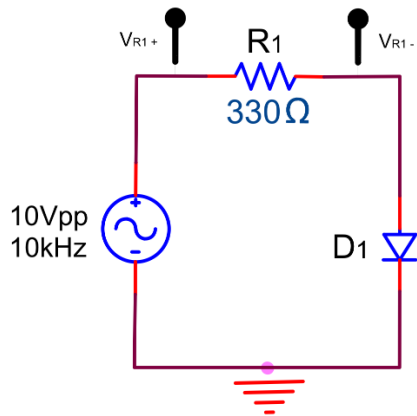
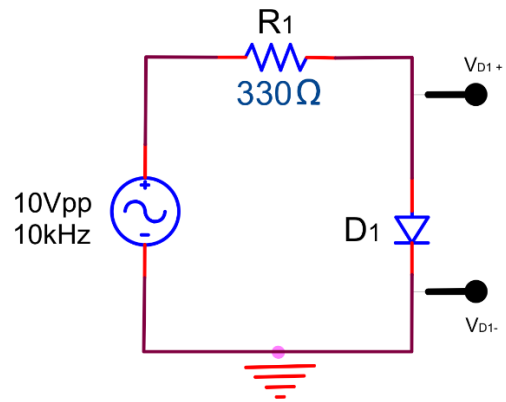

Figure 16.8
Figure 16.9
1. Simulate Figure 16.8 and Figure 16.9 and compare them to the results obtained in the laboratory.